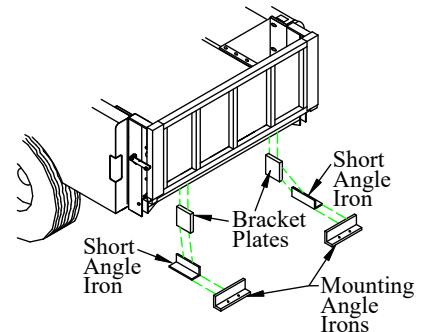

Figure 18: Lower bracket support.
2. Bolt the bracket plates to the truck frame (Figure 18).